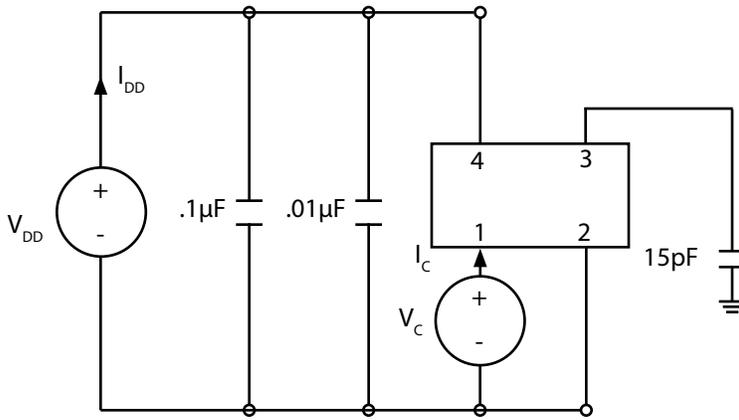

Fig 1: Test Circuit
- 2] Parameters are tested with production test circuit in Figure 1.